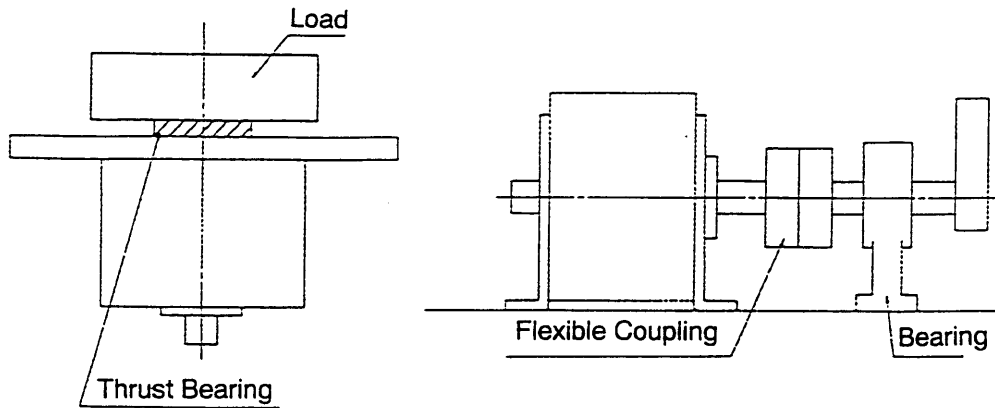

Figure 2
- ② It is recommended to use the method in Figure 2 to avoid applying direct load to the shaft for better operating conditions.